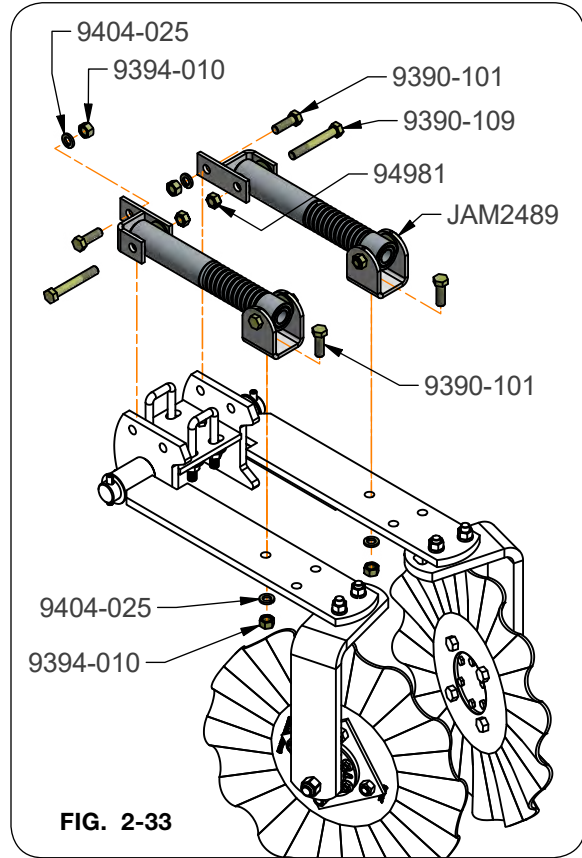

FIG. 2-33
1. Remove the 1/2"-13UNC x 1 1/2" capscrews (9390-101), 1/2" lock washer (9404-025) and 1/2"-13UNC hex nut (9394-010) from the lower clevis (JAM2489) (FIG. 2-33).
5. Mount the upper end of the sealer add-on kit to the sealer mounting bracket assembly loosely with 1/2"-13UNC x 1 1/2" capscrew (9390-101), 1/2" lock washer (9404-025) and 1/2"-13UNC hex nut (9394-010). (FIG. 2-33)
6. Loosely attach the upper spring of the sealer spring add-on kit to the sealer mounting bracket assembly with 1/2"-13UNC x 3 1/2" capscrew (9390-109) and 1/2"-13UNC lock nut (94981). (FIG. 2-33)